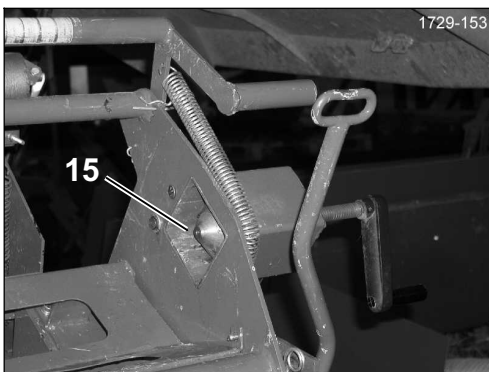
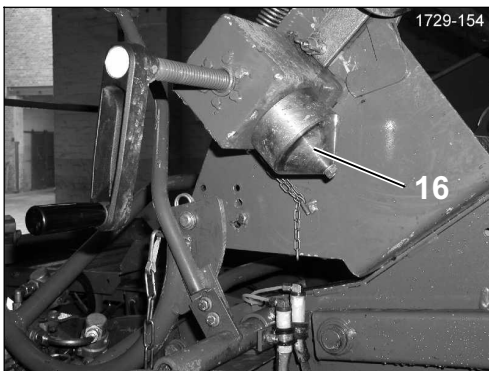

Figure 38
Figure 39
(Figure 38 and Figure 39) Depending on the width of the net roll in use an extension tensioning spindle (16) can be mount onto the original tensioning spindle (15):
- ❑ Width of the net roll 1.23 m or smaller: Unscrew extension tensioning spindle (16) and attach to the tensioning spindle [15].